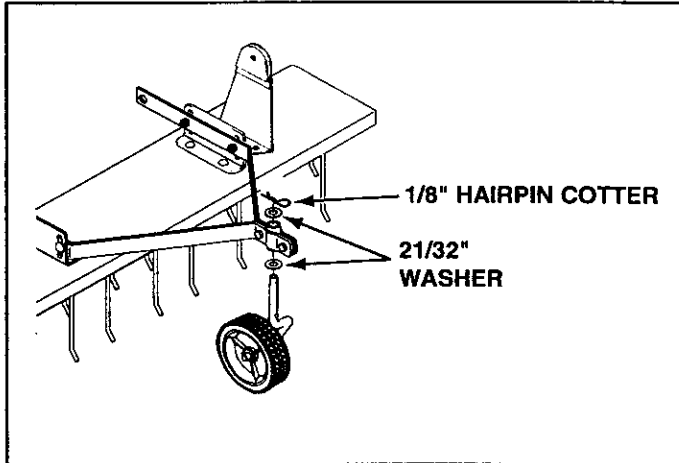

FIGURE 5
- Assemble a 21/32" washer onto axle. Insert axle up through axle bushing. Assemble another 21/32" washer onto axle and secure with a 1/8" hairpin cotter. See figure 5.